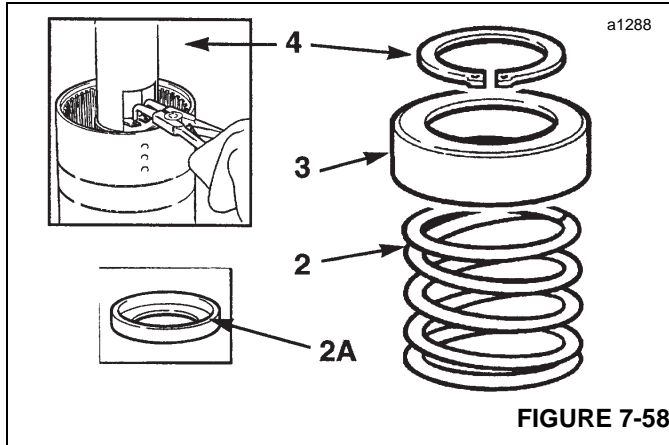

FIGURE 7-58
2. Install piston spring (2, Figure 7-58). Make sure the spring seats in the piston.